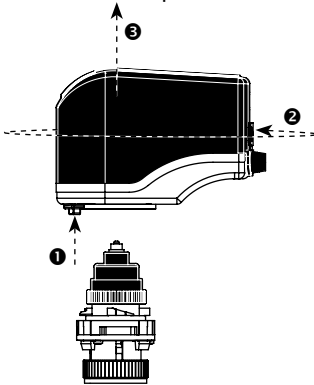

Figure 2
Separate valve adaptor from actuator (figure 2) by ❶ pressing the green release button and ❷ turning the top part of the actuator 30° counter clockwise. ❸ Then remove the top part of the actuator from the valve adaptor.
To disengage the actuator or perform manual override, please turn off the power supply and press the release button while turning the top part of the actuator counter clockwise 30° (figure 2, page 1).